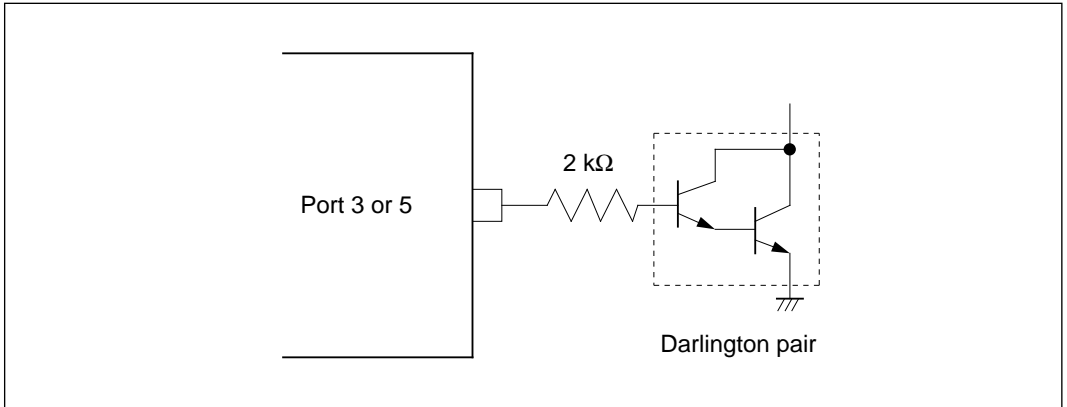

Figure 20-4 Darlington Pair Drive Circuit (Example)
2. When driving a Darlington pair or LED, always insert a current-limiting resistor in the output line, as shown in figures 20-4 and 20-5.